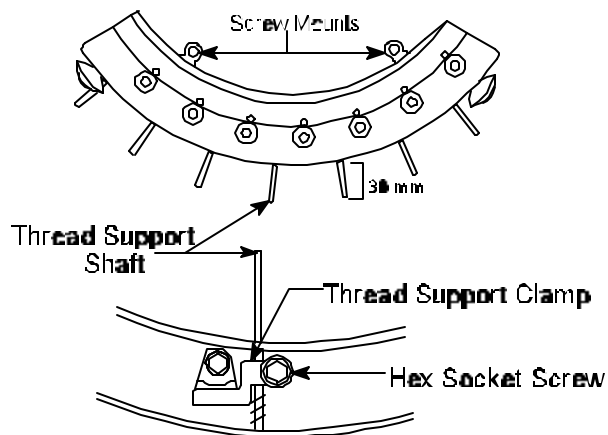

Figure 2
- Using a 2.5 mm Allen Wrench, **loosen** seven Thread Support Clamp **hex socket screws**. See Figure 2.